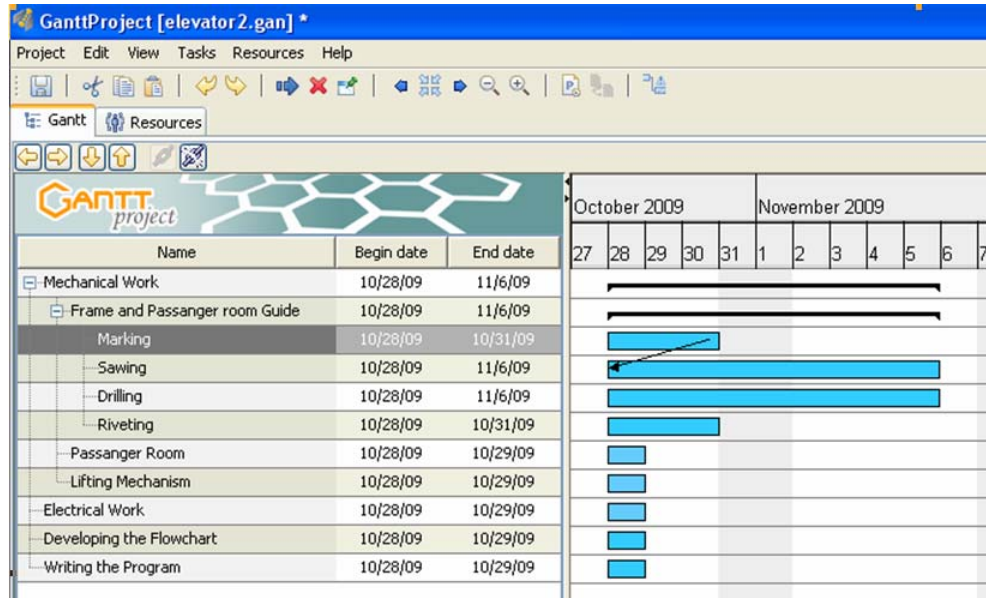

Figure 3.14: Task dependencies.
13. Next, you will specify task dependencies. In the Gantt chart, click and hold the Gantt bar for **Marking** drag it to the Gantt bar for **Sawing**, then release the mouse button as shown in figure 3.14. This step specifies that the start of the second subtask is dependent on the completion of the first, and moves the start date of the second subtask forward three days.